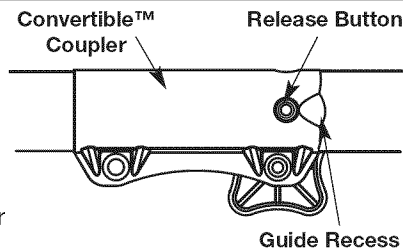

Fig. 5
2. Press and hold the release button (Fig. 5).
**NOTE:** Aligning the release button with the guide recess will help installation (Fig. 5).